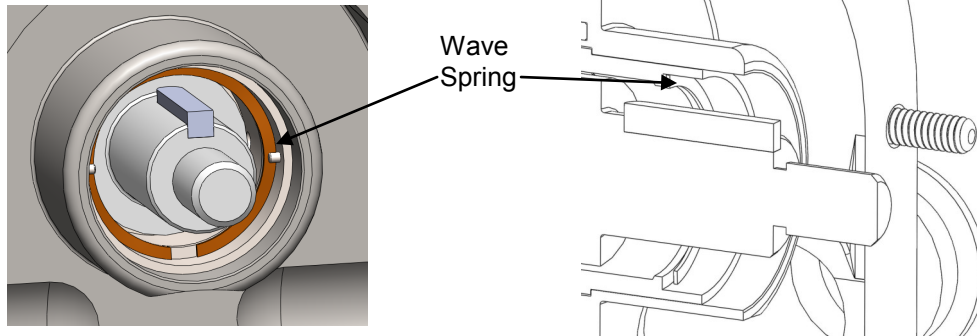

Figure 4: Inserting Spring
1) Start by inserting the wave spring into the sleeve making sure that it sets below the stationary drive pins (Figure 4). Insert a rotor key in the keyway on the shaft.